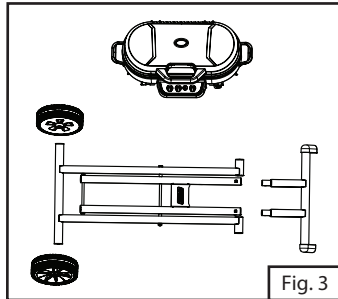
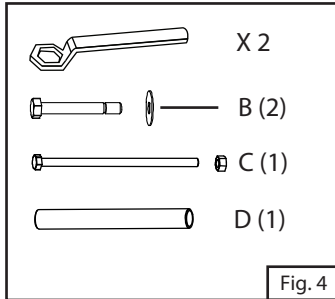

Fig. 3
Fig. 4
1. Inspect and remove all components from package. (Fig. 3 and Fig. 4)